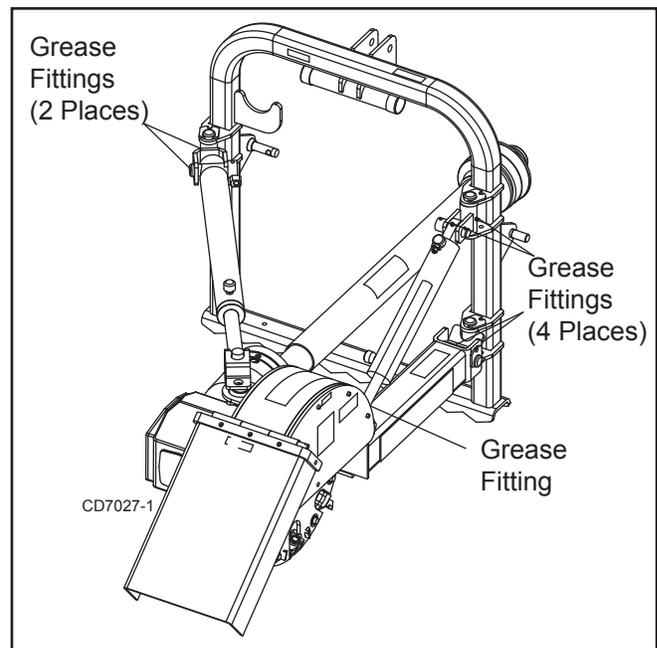

Figure 5. Lubrication Points
1. Lubricate the driveline slip joint every eight operating hours. Failure to maintain proper lubrication could result in damage to the U-joints, gearbox, and driveline. See Figure 5.